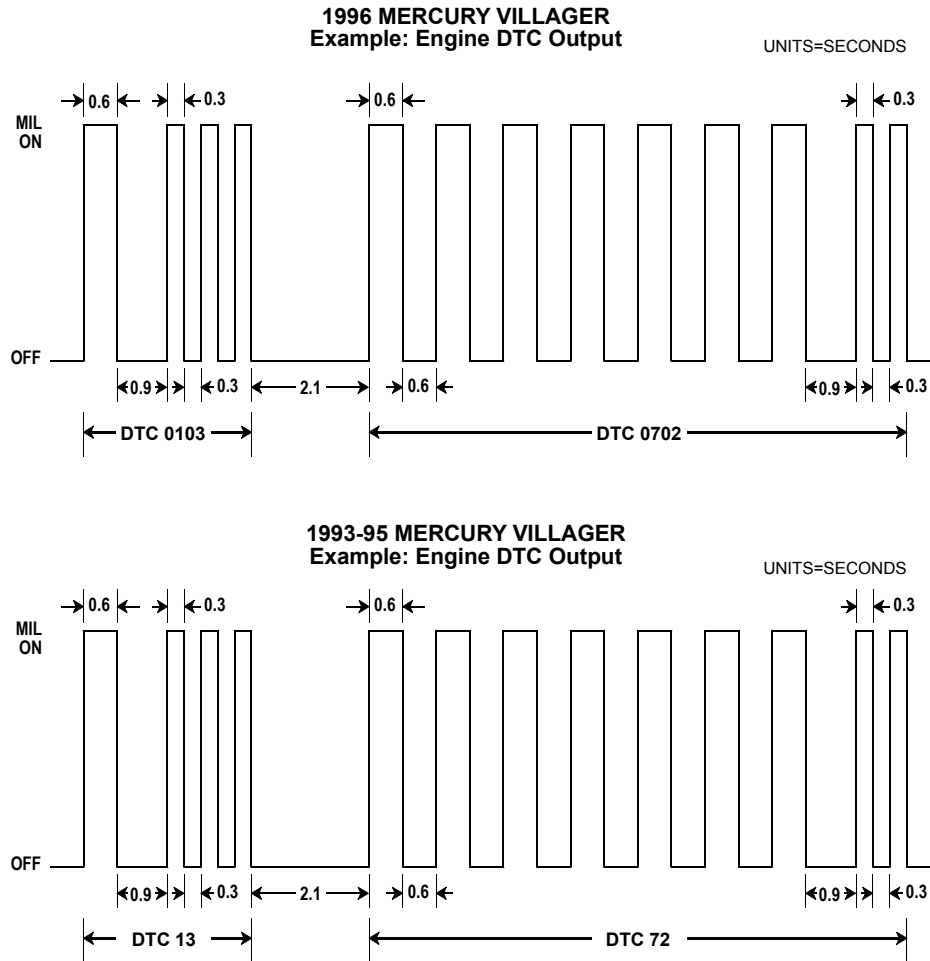

FIGURE F-1. Engine DTC Output
7. Record the DTCs by reading the flashing dashboard MIL (see Figure F-1).